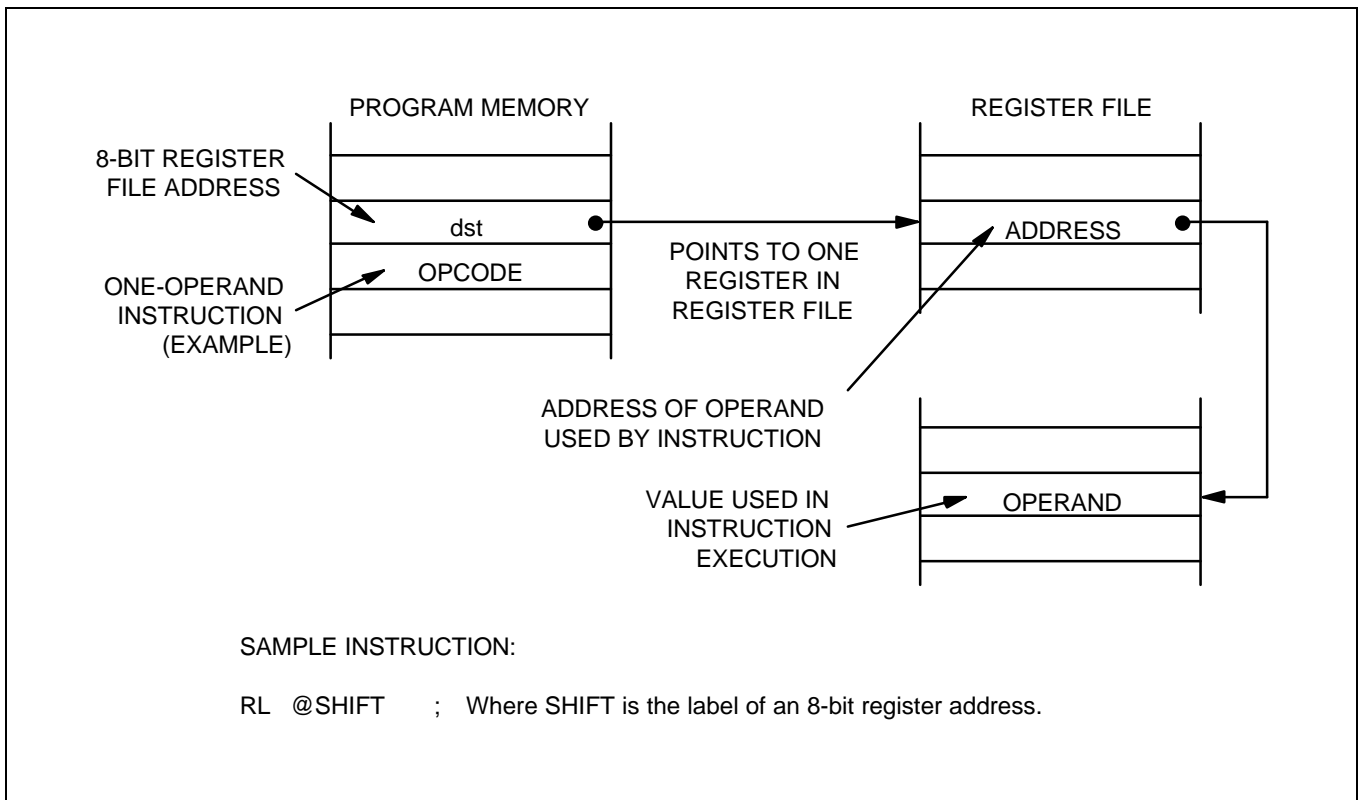

Figure 3-3. Indirect Register Addressing to Register File
In Indirect Register (IR) addressing mode, the content of a specified register or a register pair is the address of the operand. Depending on the instruction used, the actual address may point to a register in the register file, program memory (ROM), or an external memory space, if implemented (see Figures 3-3 through 3-6).